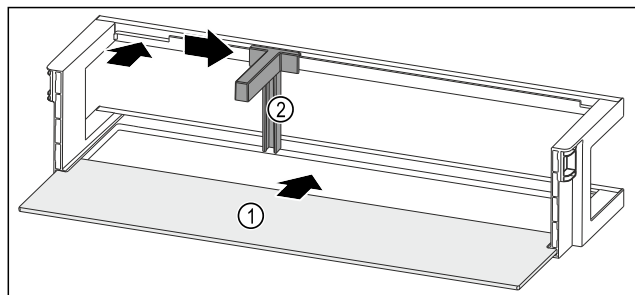

Fig. 145 Door rack with shelf
- ▶ Push the shelf Fig. 145 (1) into the side recesses.
- ▶ Insert the bottle holder Fig. 145 (2) in the recess.
- ▶ Push the bottle holder Fig. 145 (2) to the desired position to the side.